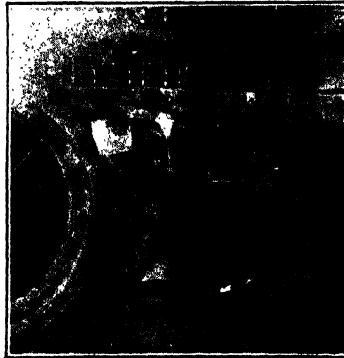

Fig. 28. Overhead Welding
**Overhead and Vertical Welding.** In welding overhead, Fig. 28, or vertically, Fig. 29, the same procedure is followed as in filling a hole. The metal should not be allowed to reach the state of fusion that is secured in ordinary welding. It should be hot enough to assimilate the welding rod, but not so fluid that it will flow out of the weld. In overhead welding care should be taken that oxidation does not occur, because the molten oxide will flow from the weld and seriously inconvenience the operator.